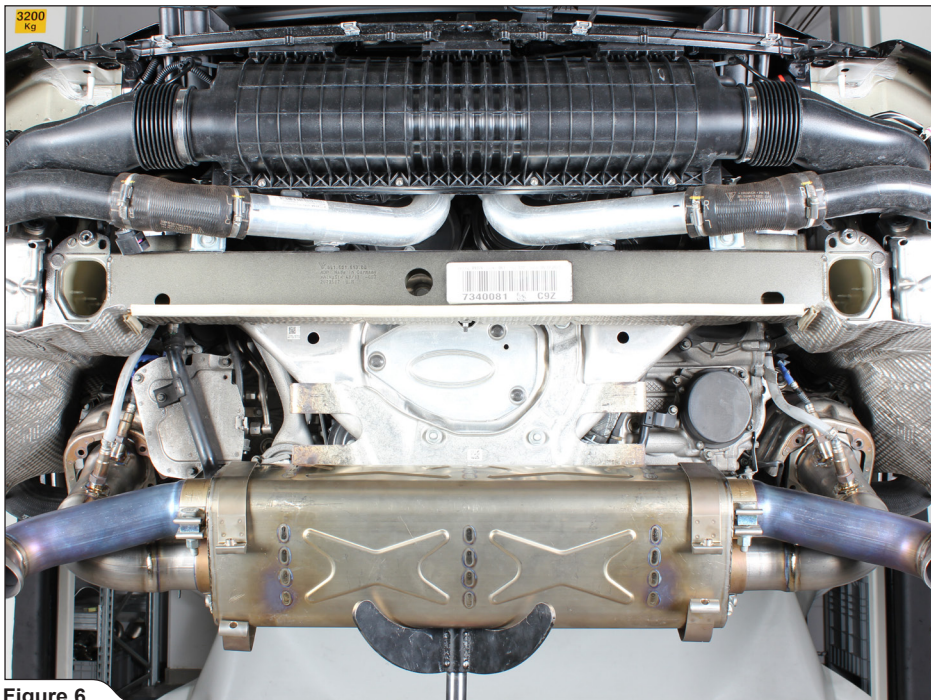

Figure 6
- (Link Pipe Set without catalytic converters: Figure 6, 7).